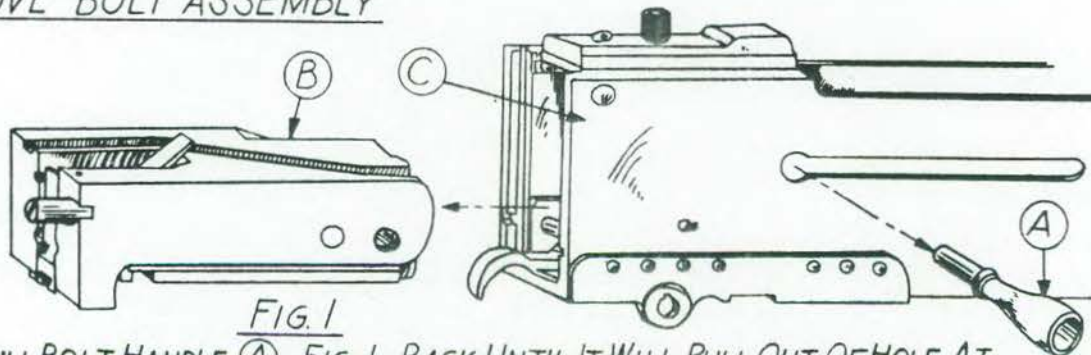

FIG. 1
- 2 PULL BOLT HANDLE (A), FIG. 1, BACK UNTIL IT WILL PULL OUT OF HOLE AT REAR OF SLOT. NOW PULL BOLT ASSEMBLY (B) OUT OF CASING.